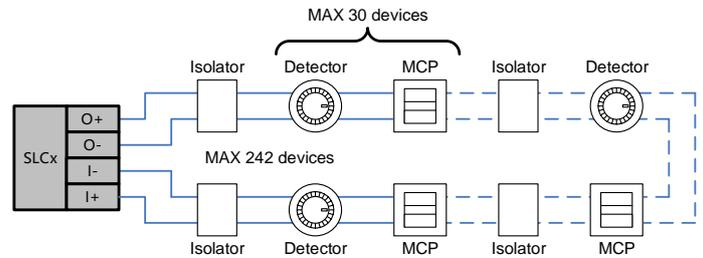
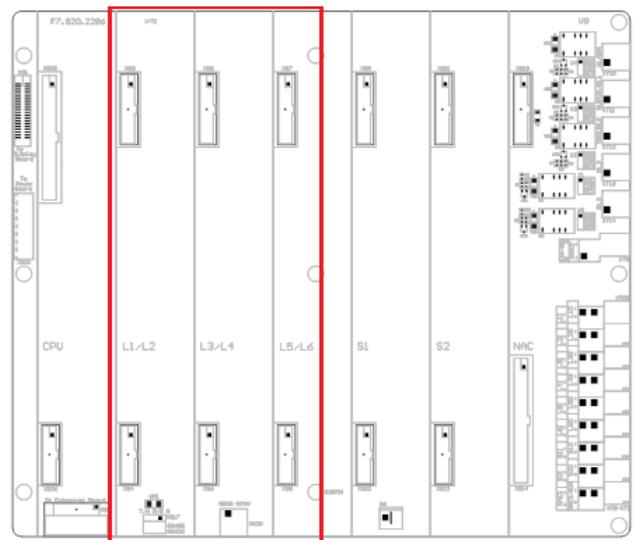

Fig. 1
Fig. 2
- ✧ One GST-IFP4M Control Panel can connect 3 LC-401 cards at the most. Its installation position is shown in Fig. 2.
When connecting with DC-M9503 Loop Isolator, Each SLC can connect up to 128 Isolators. 50 detectors/MCPs/modules can be protected between two isolators. Connection is shown below fig 1.
LC-401 Single Loop Card is inserted into mother board slots of the control panel as shown in Fig.2. Connecting with loop devices is shown in Fig. 1.
Open circuit	<ol style="list-style-type: none"> <li>1. Check if the connection is correct according to Fig. 1.</li> <li>2. Check if the circuit is open or there is short circuit between isolators.</li> </ol>